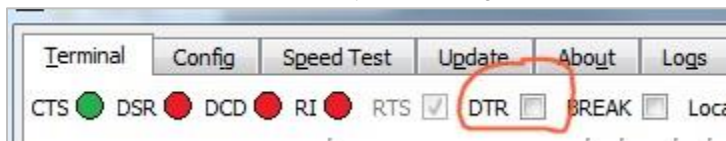

Figure 2: Uncheck DTR box
1. In UWTerminal, de-assert DTR by unchecking the DTR box as shown in Figure 2.